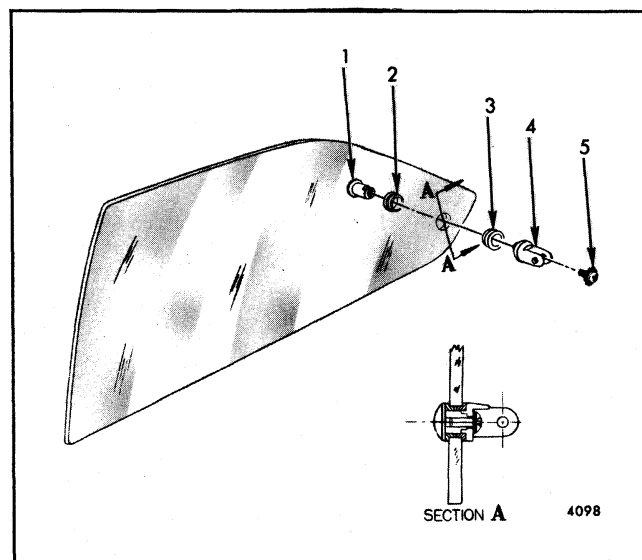

Fig. 6-50-Optional Swing-Out Quarter Window Latch Assembly Support
3. Remove support button attaching screw (Fig. 6-50).